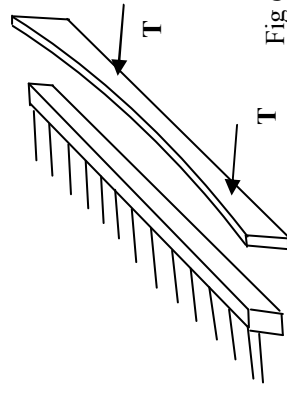

Fig 6
7. There are fascia boards for the front and rear of the arbour. The straight edge should be fixed flush with the lower edge of the roof sections. Fix these in place using screws **T** as shown in Fig. 6
8. Fit the finials front and back as Fig 6 using screws **U**.